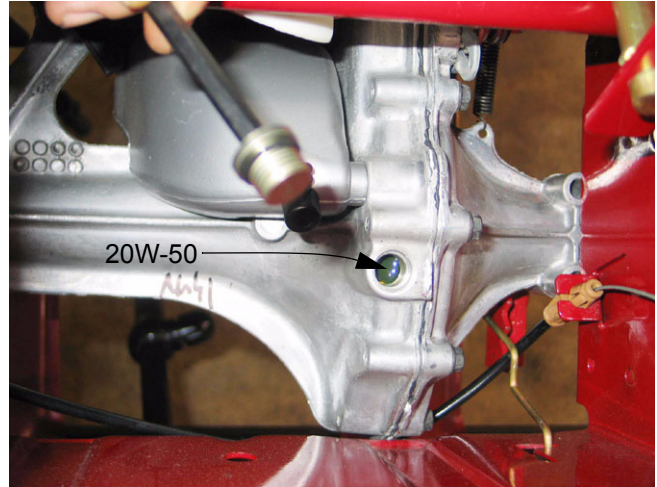

Figure 6.7
- 6.7. After a thorough cleaning, to prevent contamination of the fluid, the fill plug can be removed using a 1/4" allen wrench. See Figure 6.7.